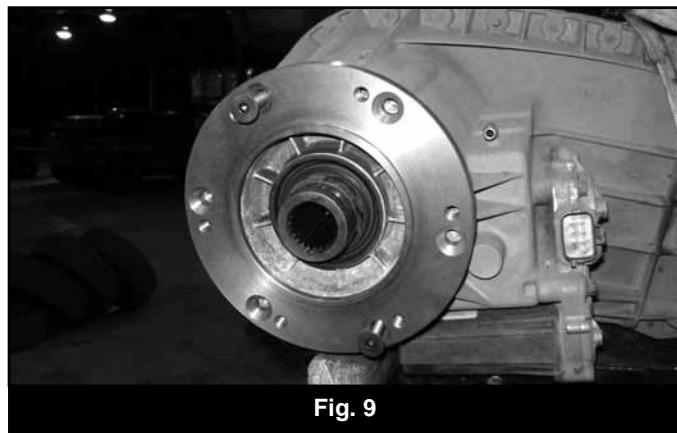

Fig. 9
16. Install the transfer case indexing ring onto the transfer case. Note: This will only go on one way, rotate until the holes line up. Certain model years use metric hardware (BP# 937), earlier years use standard 3/8" hardware (BP# 933). Match up the threads from the removed studs to ensure proper hardware is selected and attach with counter sunk allen bolts with loc-tite on threads. Ensure the ring goes on square and there are no gaps. Tighten to 35 ft-lbs. (Fig 9. )